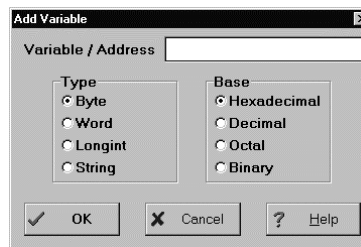

Figure 6-7. *Add Variable* Dialog
- **Add Variable:** Choose this option to open the *Add Variable* dialog (Figure 6-7) to add a variable or address to the current variable list. Select the variable type (size) and base. You can also add a variable by entering the VAR command in the ICS05JW Status Window command line.
You may enter values for commands in the simulator as either labels (which you have defined in the map file or with the SYMBOL command), or as numbers. You may specify the base in which variables are shown using the options in the *Add Variable* dialog (Figure 6-7). The default number format for the ICS05JW is hexadecimal.